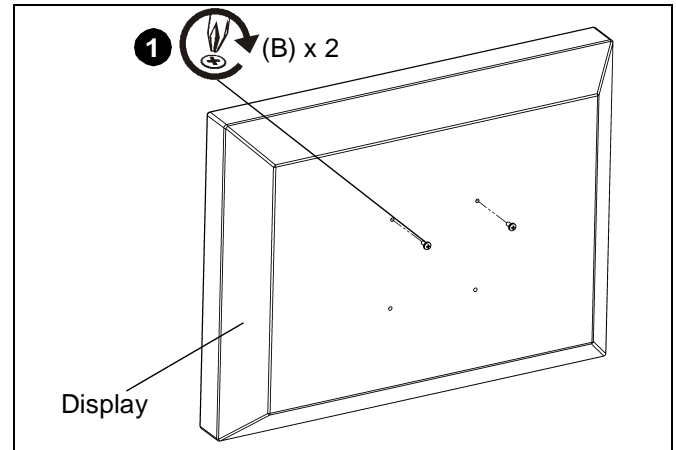

Figure 3
1. Install two M4 x 12mm Phillips pan head screws (B) into two upper mounting holes in display back. (See Figure 3)